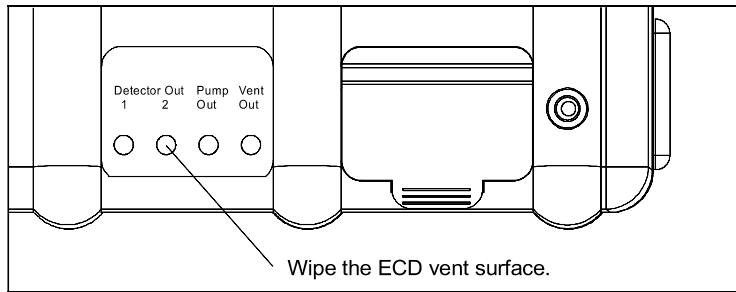

Figure 17 ECD Vent
4. Wipe the vent fitting on the top panel of the Explorer, as shown in Figure 17.